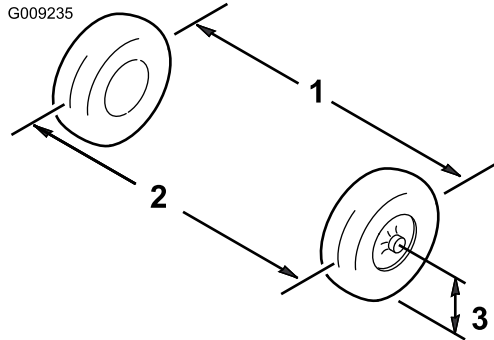

Figure 51
1. Measure the distance between both of the front tires at the axle height at both the front and rear of the front tires (Figure 51).